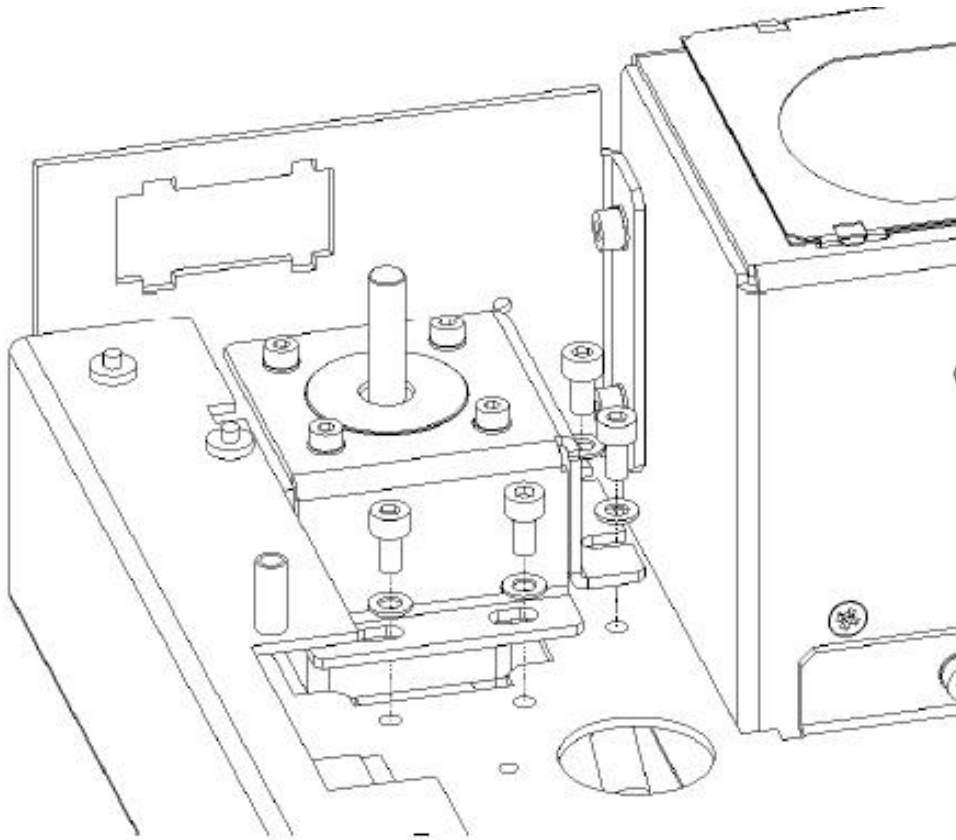

Figure N-18: Mounting the Motor
2. Loosely fit the Motor assembly to the Baseplate using four M3x6 Socket Cap Head Screws, four M3 Washers and Loctite 222 (Figure N-18).